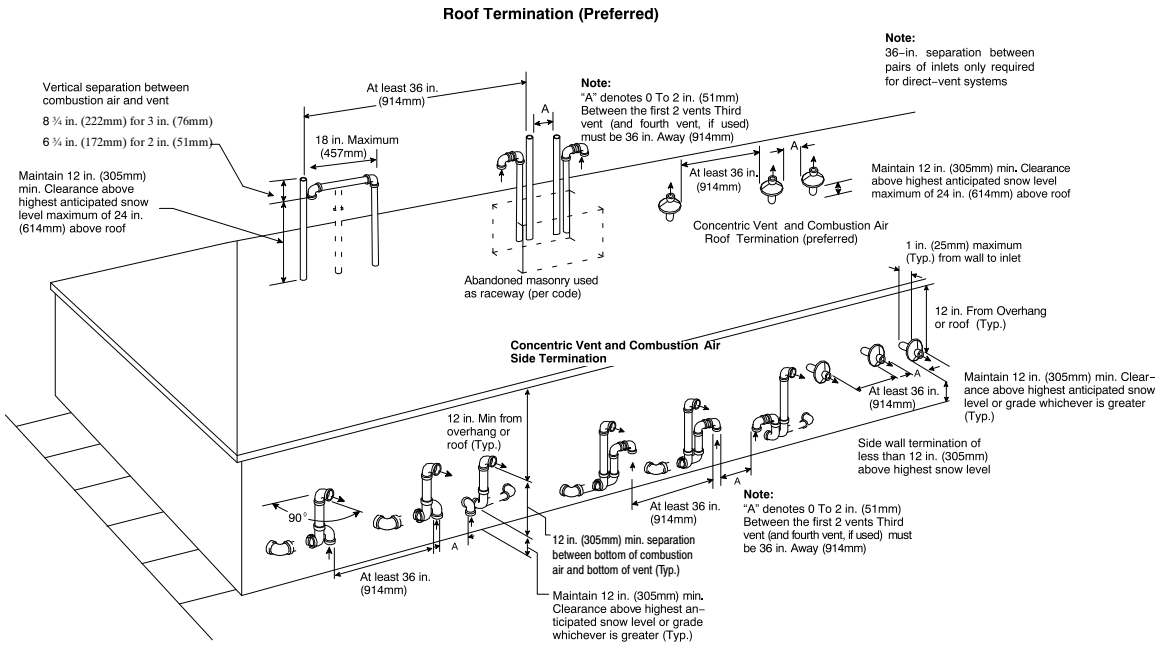
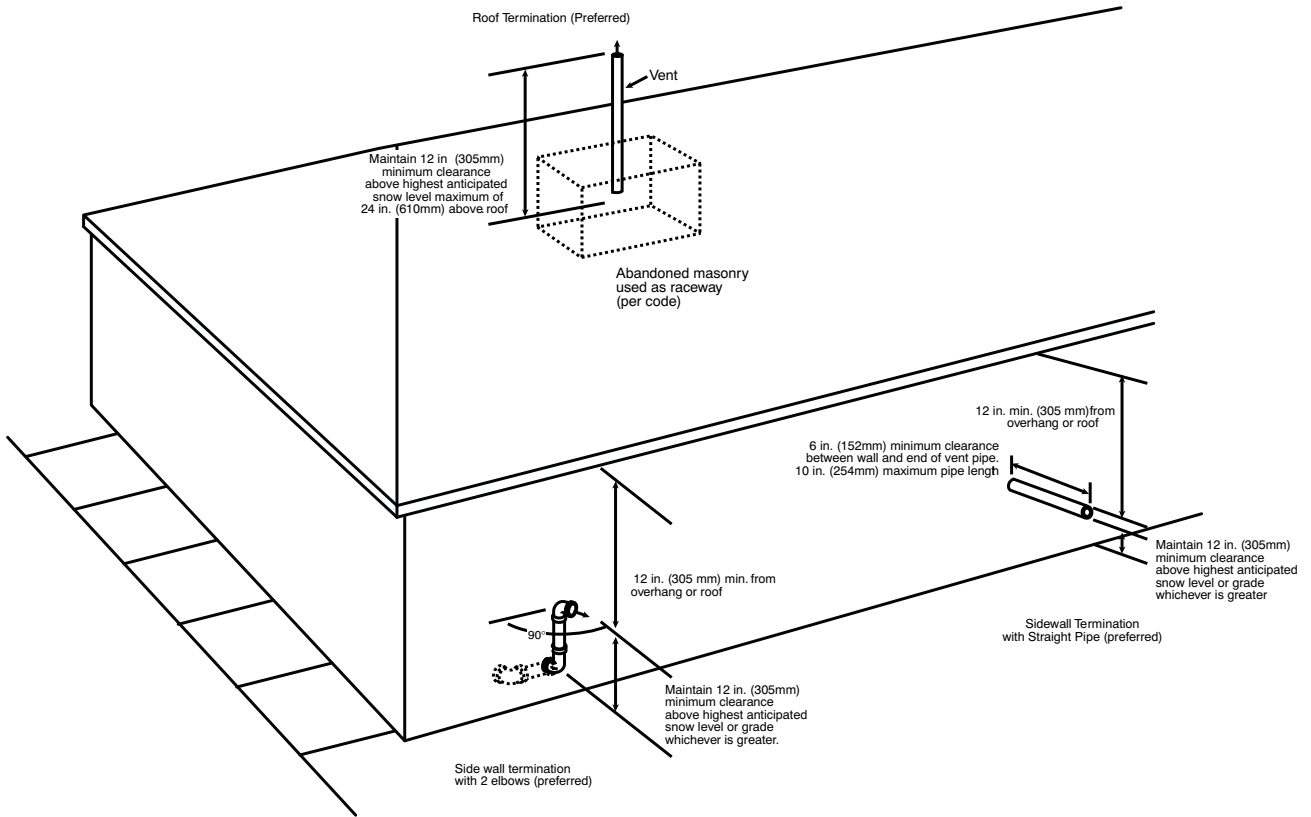
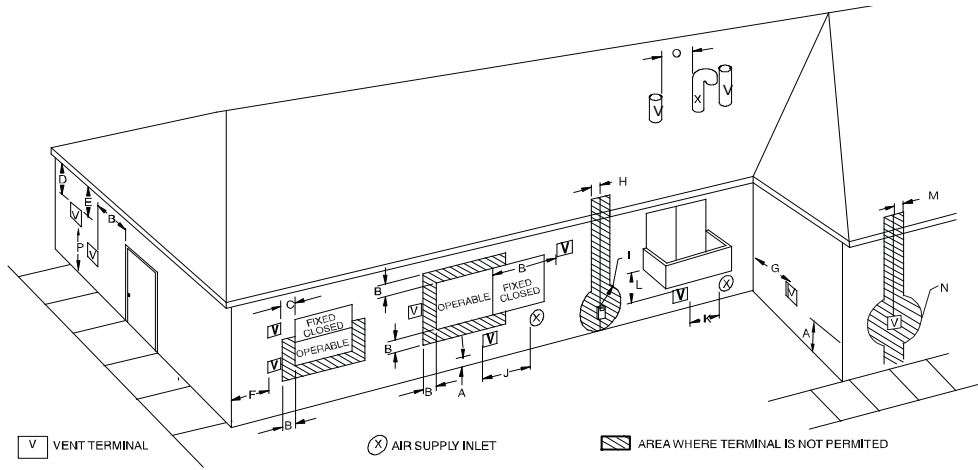
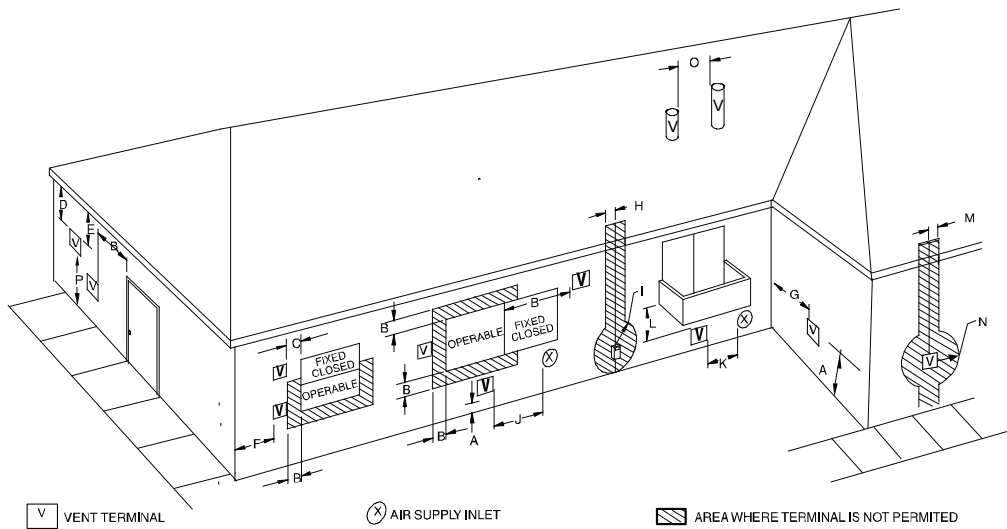

Fig. 40 – Combustion Air and Vent Pipe Termination for Direct Vent (2-Pipe) System
Fig. 41 – Vent Pipe Termination for Non-Direct Vent and Ventilated Combustion Air System
Fig. 42 – Direct Vent Termination Clearance
Fig. 43 – Ventilated Combustion Air and Non-Direct Vent Termination Clearance
In a direct-vent (2-pipe) system, all air for combustion is taken directly from outdoor atmosphere, and all flue products are discharged to outdoor atmosphere. Combustion-air and vent pipes must terminate together in the same atmospheric pressure zone, either through the roof (preferred) or a sidewall. See Fig. 42 for references to clearances required by National code authorities.
In a non direct-vent (1-pipe) system, all air for combustion is taken from the area adjacent to furnace, and all flue products are discharged to outdoor atmosphere. Air for combustion must be supplied as described in the Air For Combustion and Ventilation Section. Do not use an abandoned chimney to supply outside air to the furnace. See Fig. 43 for references to vent clearances required by National code authorities.
For vent termination clearance, references to National codes are shown in Fig. 42 for Direct Vent/2-Pipe system and Fig. 43 for Ventilated Combustion Air/Non-direct Vent/1-Pipe system. For exterior termination arrangements, refer to Fig. 40 for Direct Vent/2-Pipe system and Fig. 41 for Ventilated Combustion Air/Non-Direct/1-Pipe system. Contact Local code authorities for other requirements to and/or exemptions from the National codes shown in the figures.
1. Comply with all clearance requirements stated in Fig. 42 or Fig. 43 per application.
Direct vent (2-pipe) vent and combustion air pipes must terminate outside the structure. See Fig. 42 for references to vent clearances required by National code authorities. Allowable vent and combustion air terminations are shown in Fig. 40.
The vent pipe for a Ventilated Combustion Air System must terminate outdoors. See Fig. 43 for references to vent clearances required by National code authorities. Allowable vent terminations are shown in Fig. 41. The combustion air pipe terminates in a well-ventilated attic or crawl space. Follow the clearances as shown in Fig. 49.
The vent pipe for a Non Direct Vent (1-pipe) system must terminate outdoors. See Fig. 43 for references to vent clearances required by National Code authorities. Allowable vent terminations are shown in Fig. 41.